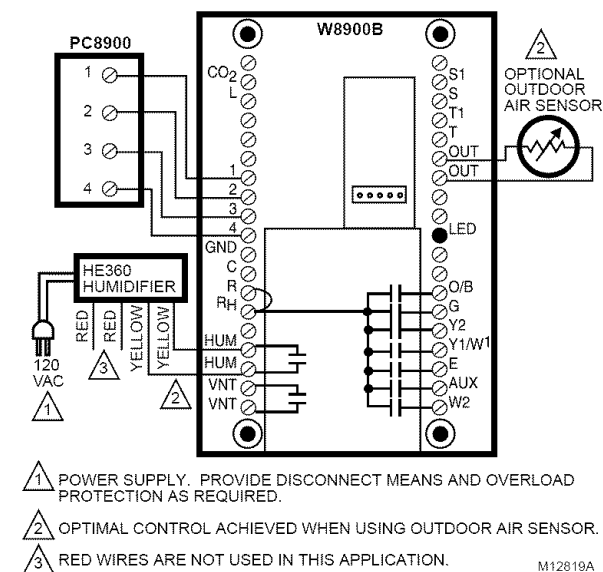

Fig. 9. Typical wiring diagram for humidifier using PC8900/W8900.
1. Connect only the two yellow wires to the W8900 (red wire connections are not used). See the typical wiring diagram in Fig. 9.